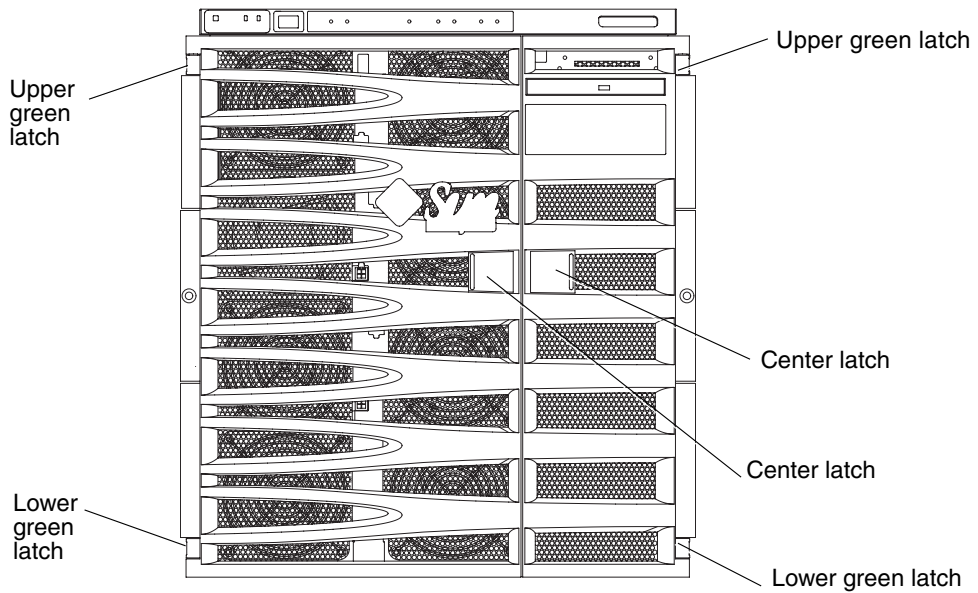

FIGURE 2-3 Front View of System
1. **Open both doors by pressing the latches at the center of each door** (FIGURE 2-3).
- a. While holding the door with one hand, push the green latch on the top of the door down (FIGURE 2-3).